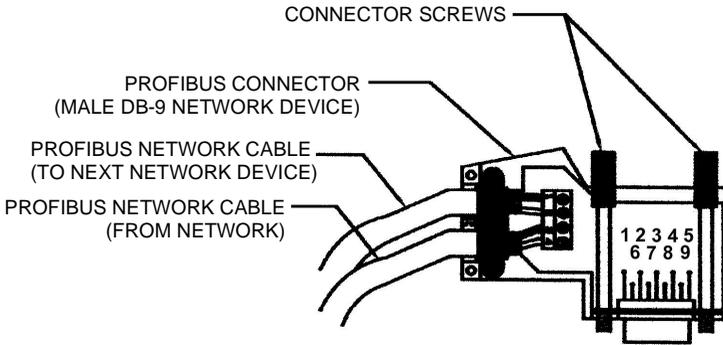

Figure 2-3. Connection Cable
- (5) Construct a short cable to connect the network to the inverter. On one end of the cable, install a connector compatible with the network. On the other end, install a DB9-style male connector. Make sure the cable can support 12.0 Mbps communications (as specified in the EEIA-RS-485 standard). This cables connections are shown in Figure 2-3.